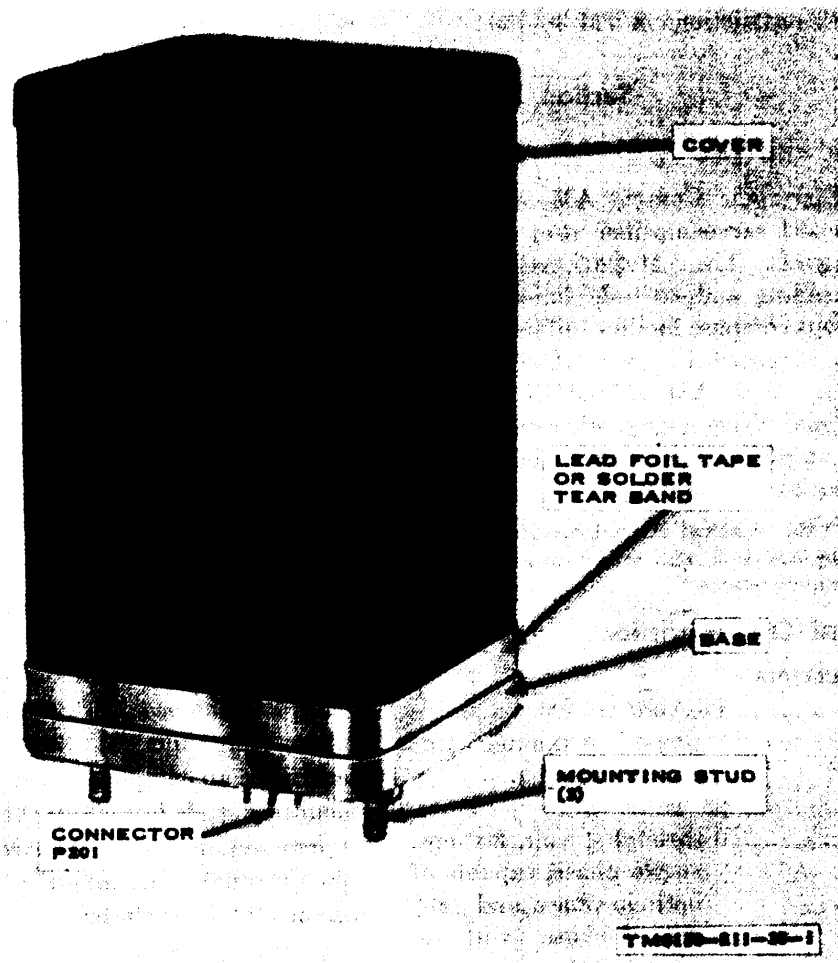

Figure 1-1. Amplifier, Electronic Control AM-3209/ASN.
This manual contains instructions for organizational, direct and general support, and depot maintenance for Amplifier, Electronic Control AM-3209/ASN (fig. 1-1). It includes instructions appropriate to direct and general support
a. The AM-3209/ASN (fig. 1-1) is a moisture-sealed, plug-in component. The internal components, transformers, fixed capacitors and resistors, germanium transistors, silicon diodes, and a thermistor are mounted on a circuit board (fig. 3-5 and 3-6) and protected by a snug-fitting cover (fig. 1-1). The cover (fig. 1-1) slides over the internal amplifier assembly circuit board and is secured to the base with either lead foil tape or a solder tear band seal. The AM-3209/ASN is secured to an equipment rack with three threaded mounting studs located on the base. All electrical inputs and outputs to the AM-3209/ASN are applied through a hermetically sealed electrical connector (P201) on the base.